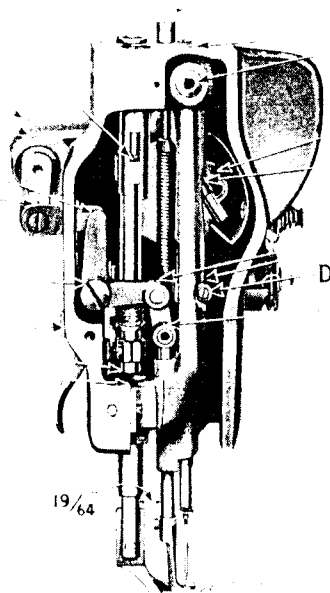

Fig. 13. End View of Machine
In case the needle bar is not correct set, loosen the needle bar connecting stud pinch screw (D, Fig. 13) and place the needle bar in correct position as directed above, then retighten the screw (D).
The distance between the vibrating presser bar and lifting presser bar, after turning the feed regulating spindle head so that there is no feed movement of the needle bar should be $\frac{19}{64}$ inch as shown in Fig. 13.